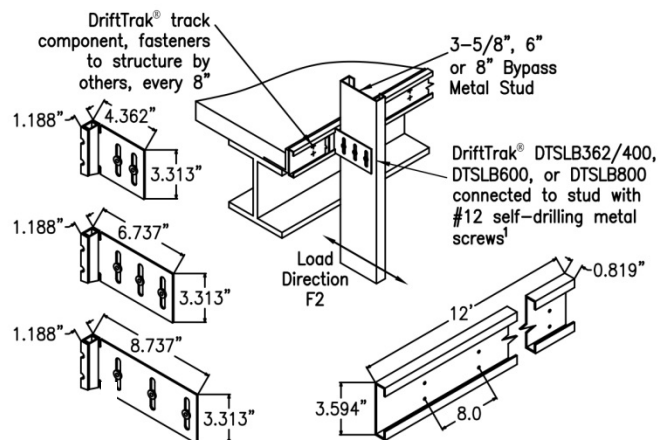

Figure 9 – DriftTrak® DTSLB362/400, DTSLB600 and DTSLB800
3.3.5 DriftTrak® DTSLB: DriftTrak® DTSLB362/400, 600 and 800 are L-shaped angle and track combinations that connect $3\frac{5}{8}$ or 4, 6 and 8 inch deep (92 or 102, 152, and 203 mm) exterior curtain wall steel studs, respectively, to a concrete floor slab's pour-stop angle while allowing a maximum of 2 inches (51 mm) of vertical movement, and free horizontal movement between exterior wall elements and the primary structure. The minimum base-metal thickness of the clip is 0.0677 inch (1.7 mm), and the minimum base-metal thickness of the track is 0.0966 inch (2.5 mm). The long leg of the DriftTrak DTSLB connector, which is fastened to the curtain wall stud, has two or three vertical slots, each $\frac{3}{8}$ inch (9.5 mm) wide by $2\frac{3}{8}$ inches (60 mm) long and has bushings designed for #12 self-drilling/self-tapping steel screws installed in the centers of the slots. Refer to Figure 9 for overall dimensions of each DriftTrak DTSLB connector and a typical installation detail.